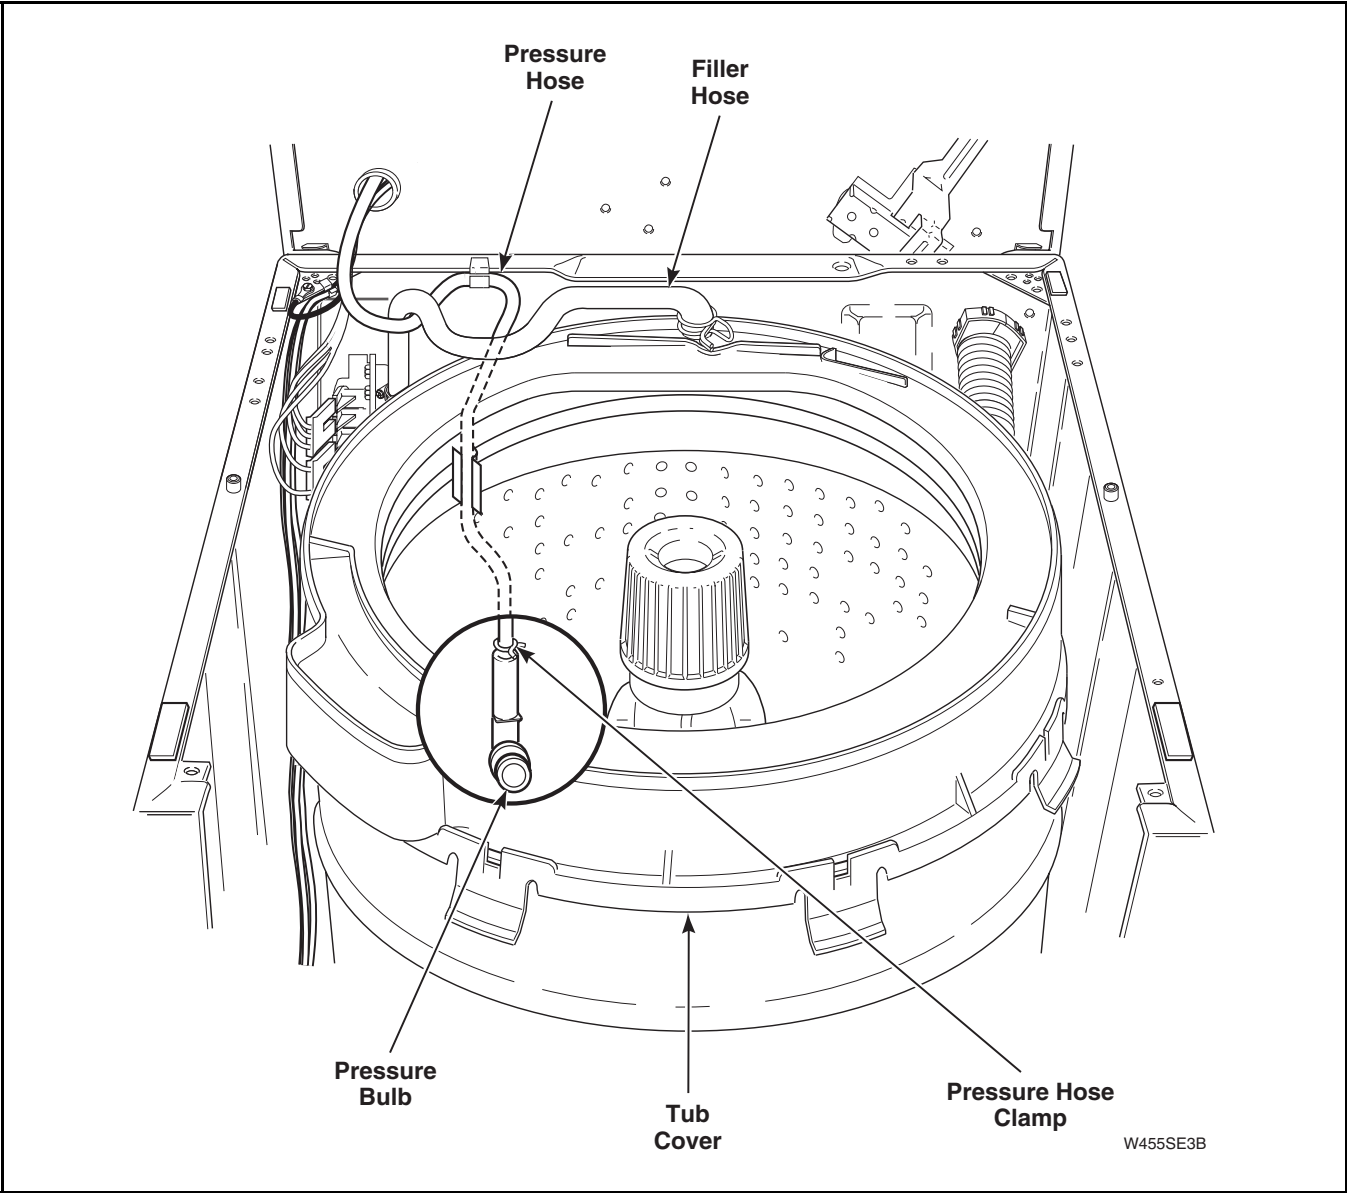

Figure 75
- q. Reconnect pressure hose to pressure bulb. Refer to *Figure 75*. Then connect filler hose to tub cover. Refer to *Figure 75*.
NOTE: When reinstalling filler hose, white line on hose that connects to tub cover must point toward front of washer. Refer to *Figure 75*. Make sure hose is in its natural position (not kinked or twisted). If hose is not, loosen hose clamp and straighten hose.